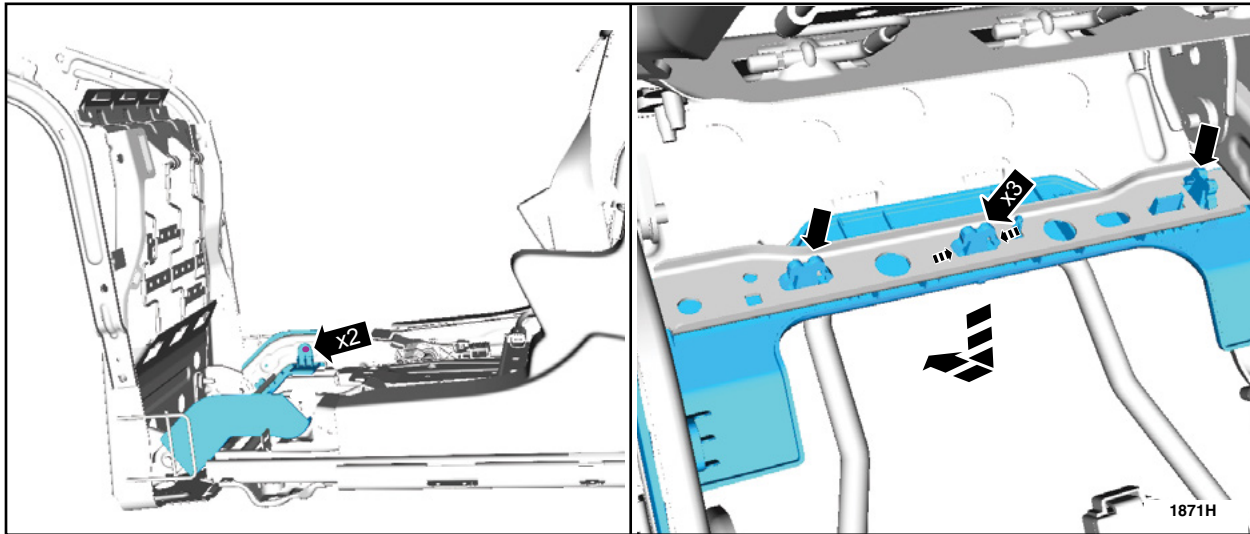

FIGURE 8
9. Remove the retainers and the front crossbar frame panel. See Figure 8.
23. Install the front crossbar frame panel and the retainers. See Figure 8.